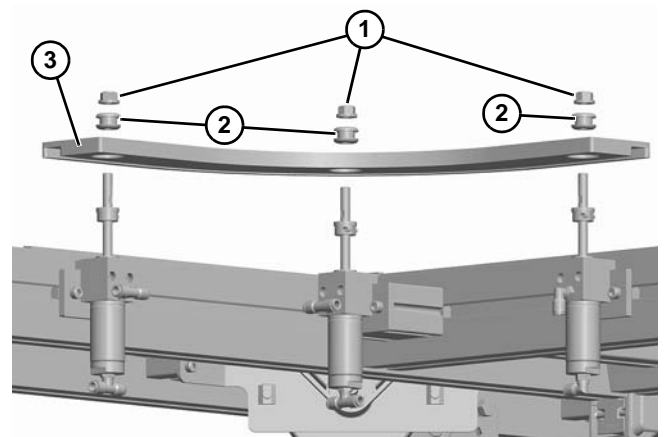

Figure 132
2. Remove lock nuts (**Figure 132, item 1**), grommets (**Figure 132, item 2**), and corner guide (**Figure 132, item 3**).